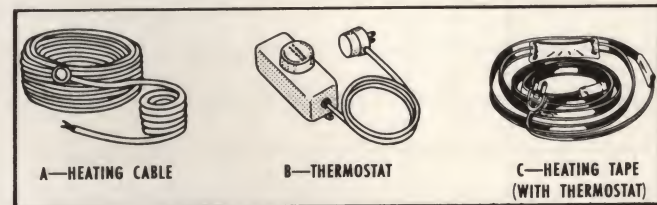

FIG. 110—TYPES OF HEATING TAPE
**USE 115 OR 230 VOLT CABLE.** Wards sells flat heating tape (Fig. 110) which plugs into any outlet or special thermostat. Heating cable up to 60 ft. in lengths (440 watts) can be operated on 115 volts; cable up to 120 ft. long requires 230 volt current.
**THERMOSTAT CONTROLS CABLE TEMPERATURE.** The heating cable temperature may be automatically controlled by means of an adjustable thermostat. (See Fig. 110-B.) Uniform heat is delivered to the required areas and current costs are kept to a minimum. Heating tape with a built-in thermostat (Fig. 110-C) turns on automatically when the temperature reaches freezing, and over-heating is prevented. The use of a thermostat is particularly recommended when cable is used for water pipe protection. In the absence of a thermostat, if plug receptacle is used, heating cable should be controlled by a manual switch to permit turning it on or off, as desired.